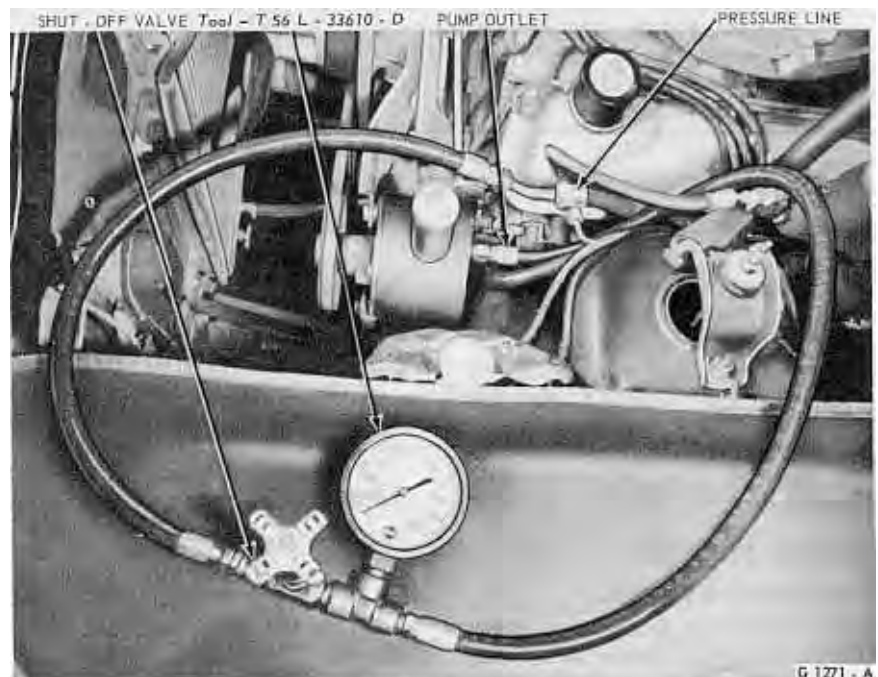

FIG. 2—Pressure Testing Tool Installed—Typical
2. Disconnect the pressure line hose from the pump outlet, and install a 0-2000 psi pressure gauge and shut off valve between the end of the hose and the pump outlet (Fig. 2).